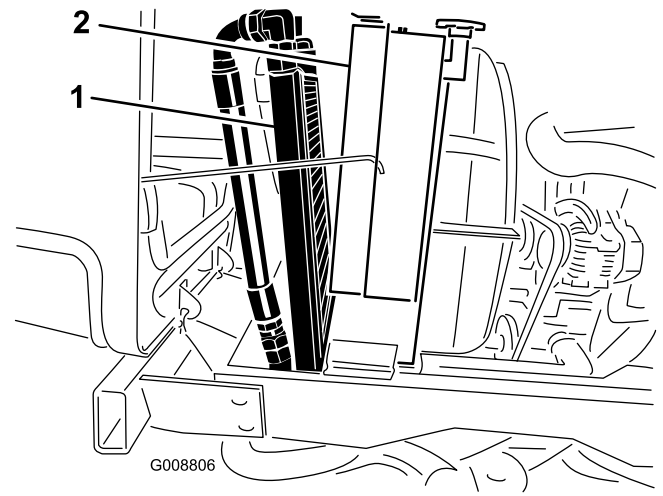

Figure 68
3. Pivot the oil cooler rearward. Clean both sides of the oil cooler and radiator area (Figure 68) thoroughly with compressed air. Start from the fan side and blow the debris out towards the back. Then clean from the back side and blow towards the front. Repeat procedure several times until all chaff and debris is removed.